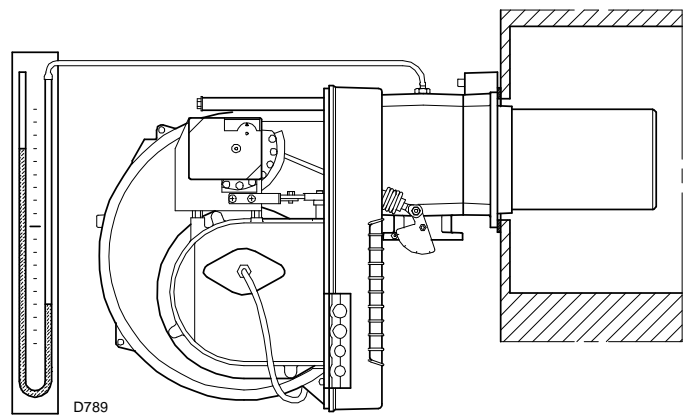

Fig. 23
- Fit a U-type pressure gauge (Fig. 23) to the gas pressure test point on the pipe coupling. Used to roughly calculate MAX burner output using the tables Tab. H on page 20.
In this case increase gas ignition delivery. The arrival of gas at the pipe coupling is indicated by the U-type pressure gauge (Fig. 23 on page 24).
A rough indication can be obtained from Tab. H on page 20, just read the gas pressure on the pressure gauge see Fig. 23 on page 24, and follow the indication given in Tab. H on page 20.